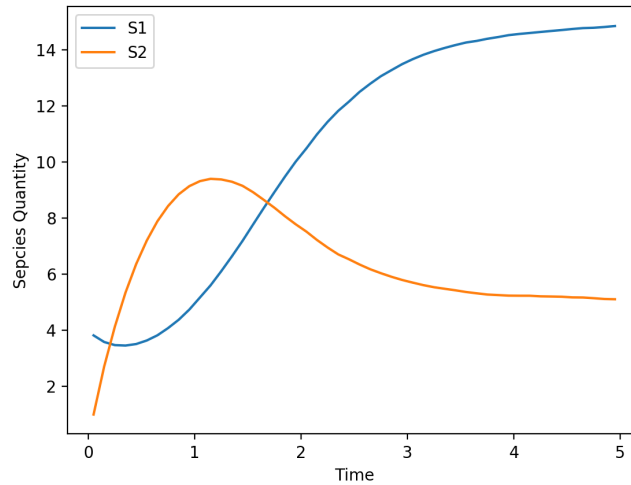

Figure 1: Evolution of Species  $S_1$  and  $S_2$ .
- b) [20pts] Implement **Step 0**, **Step 1**, **Step 2** and **Step 3** from the SSA algorithm in the file `SSA_CPU.cpp`. In Step 1 and Step 2, use the inverse transform to draw samples from the corresponding probability density function. Please reuse the allocated random numbers from the `r48` array. Other files don't need to be modified. In order to validate your implementation visualize your results `output.txt` with the python script `plot_output.py` and compare with Figure 1.